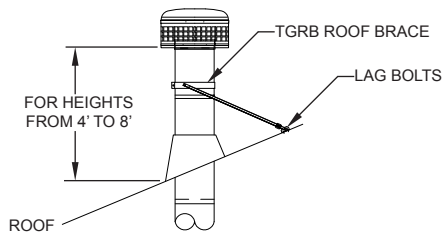
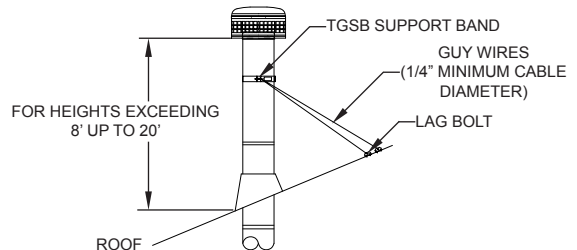

FIG. 23
FIG. 24
Select the proper support for your application, using either a roof brace (FIG. 23) or a support band with guy wires (FIG. 24)
3. Position the support legs as shown in FIG. 23. The length of the support legs can be adjusted by loosening the bolt on the leg clamp.